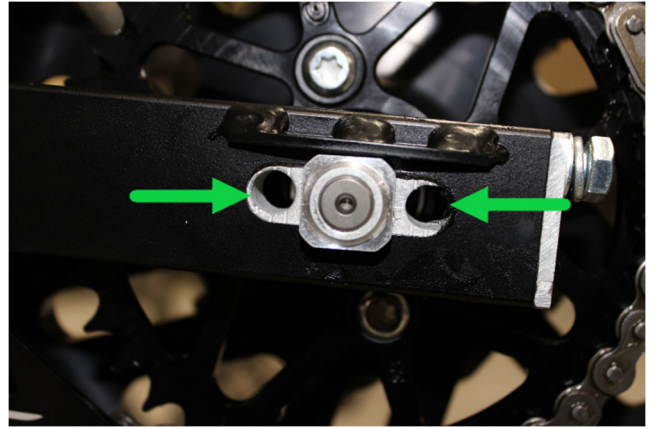

Figure 3 (top), Figure 4 (bottom)
6. Retighten the adjuster bolt (figure 3)